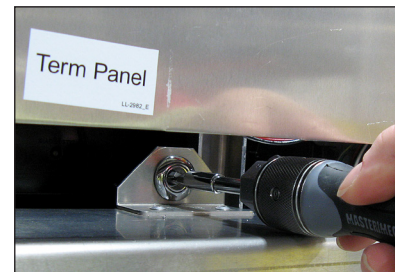

Figure 20: Term Panel Latch
1. Turn the quarter-turn latch on the top-right side of the term panel using a flat-head screw driver. Refer to **Figure 20**.